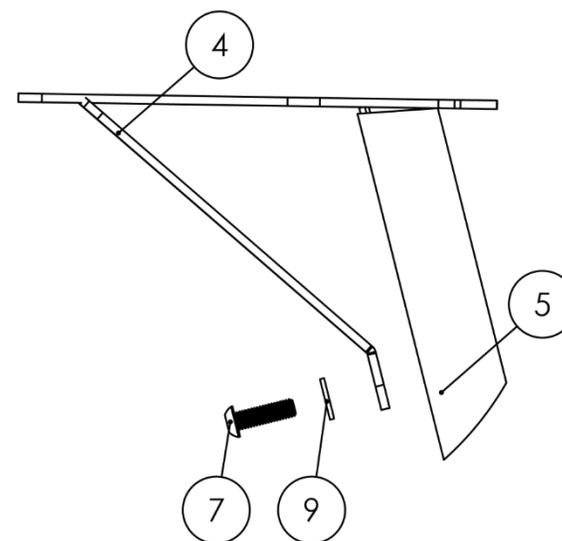

Figure 12
6. **Attach the Crossbar Gussets to the Legs.** Grab the (4) Crossbar Gusset Assemblies (Item No. 4) and notice that their angular projection parallels the inside of the Legs (Item No. 5). As shown in Figure 12, slide this end into the Legs and secure the parts by threading a 1.25" Button Head Cap Screw (Item No. 7) and a Metal Washer (Item No. 9) into the concentric holes.